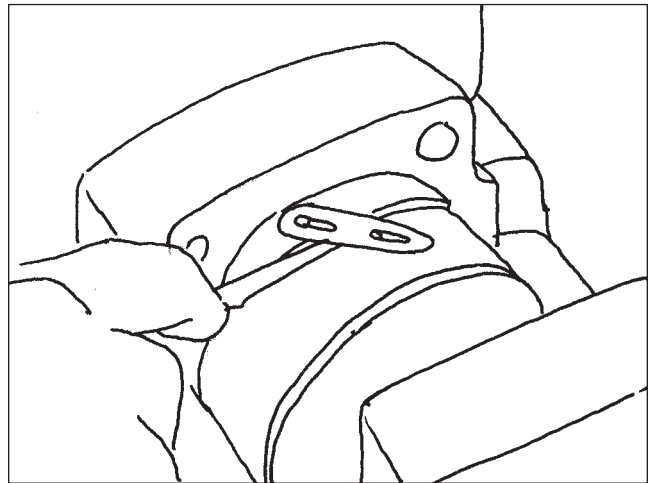

Figure 98
13. Carefully slide the piston and bearing cap assembly from the housing bore until the ball guide retainer is located (Figure 98).